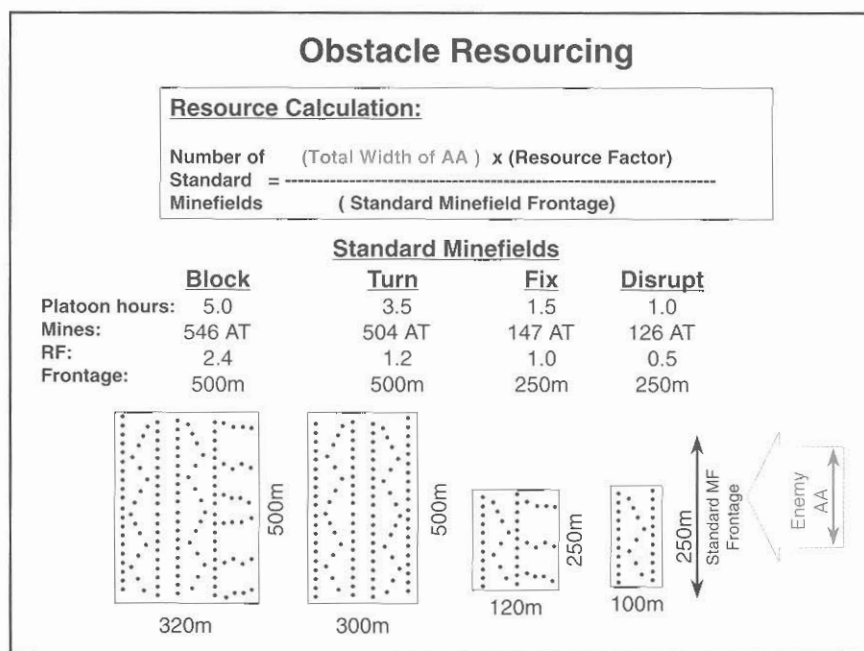

Figure 1
the resource factor (RF), and the total width of the avenue of approach (AA). Use the obstacle group design calculation in FM 90-7, *Combined Arms Obstacle Integration*, to determine the total quantity of standard minefields required to achieve the intended effect (Figure 1).